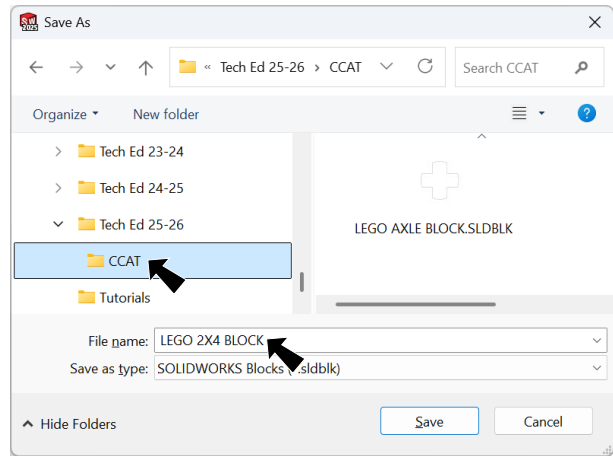

Fig. 33
Step 2. In the Save As dialog box, **Fig. 33** key-in **LEGO 2X4 BLOCK** for the filename navigate to: **Documents\Tech Ed 24-25\CCAT** click Save button.